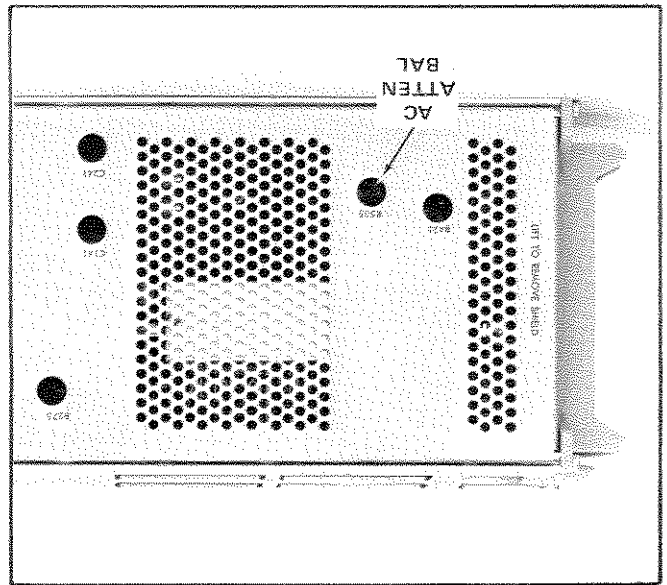

Fig. 2-2. Location of AC ATTEN BAL control.
- d. Adjust R425 for no movement of trace as the VARIABLE control is rotated from stop to stop. (See Fig. 2-2 for location of adjustment.)
1. AC ATTEN BAL (internal adjustment). When the LOW FREQ —3dB POINT switch is used to limit the low frequency response of the Type 7A22, the unit employs AC stabilization. This means that when the switch is set to any position except DC or DC OFFSET, the STEP ATTEN DC BAL and DC OFFSET controls become inoperative. VOLTS/DIV balance is then controlled with the AC ATTEN BAL, an internal adjustment (see Fig. 2-2).